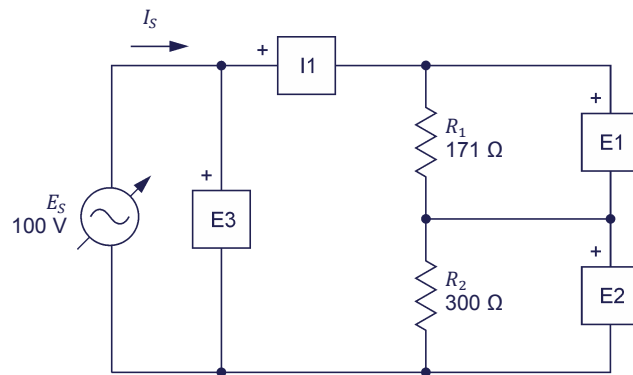

Figure 1-9. AC circuit containing two resistors connected in series.
24. Set up the circuit shown in Figure 1-9. To obtain the resistor arrangement of Figure 1-9, make the necessary connections and switch settings on the Resistive Load (refer to Appendix C if necessary). Use inputs *I1*, *E1*, *E2*, and *E3* of the **Data Acquisition and Control Interface** to measure the source current I_S , voltage E_{R1} , voltage E_{R2} , and source voltage E_S , respectively.